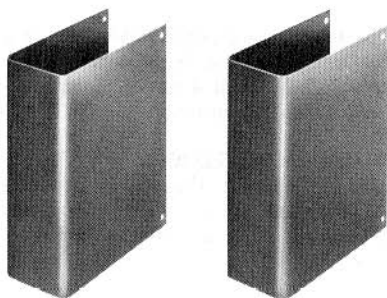

Fig. 32—Covers per ED-95023-70
**6.05** The covers per ED-95023-70† (Fig. 32) are used to conceal the exposed portion of ED-95023-01 metal stands where appearance is important. Eight RHM screws are furnished with the covers.